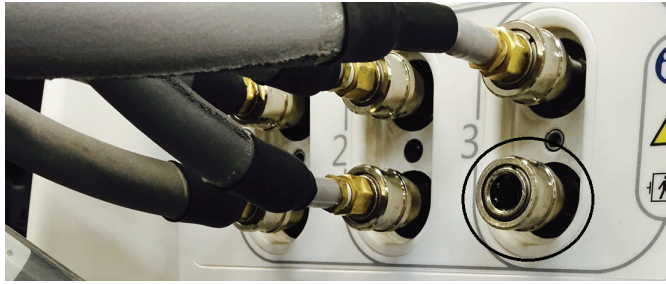

Figure 30 – Disconnected hose
5. Disconnect the bottom hose from the bottom right port (Figure 30).